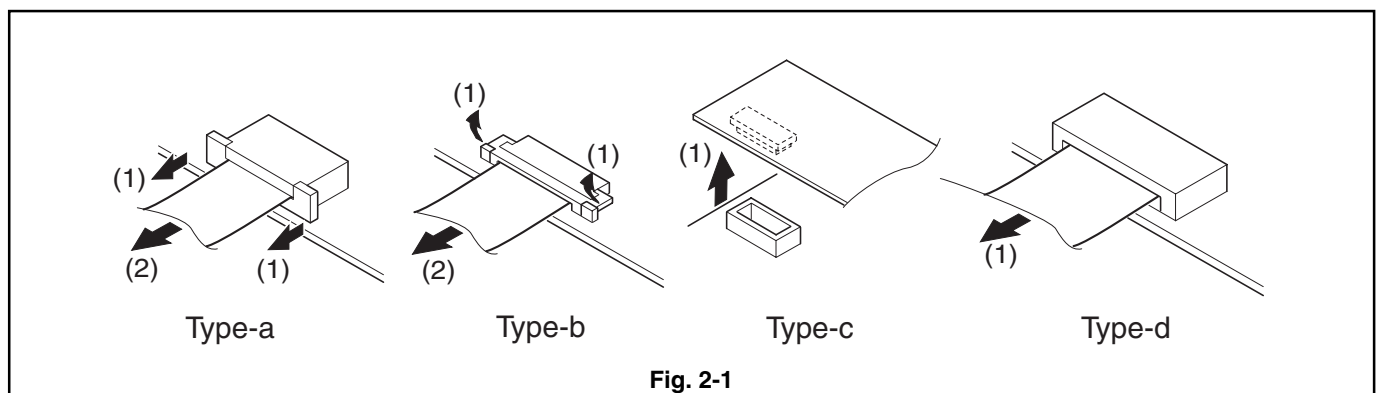

Fig. 2-1
- 2) Flat-cable connectors (female) used in this DVD video camera/recorder are four types (a)-(d) shown in Fig. 2-1: Note that the disconnection method with flat cable is different for each connector. (Some connectors have the same structure as type (a), but the flat cable is connected to the circuit board at right angles.) Connect the flat cables by the reverse procedure to disconnection.